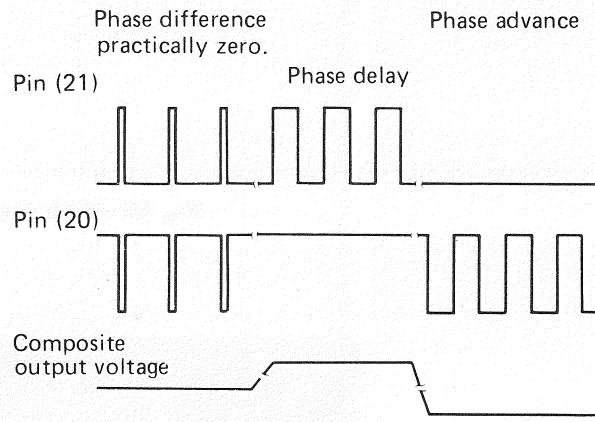
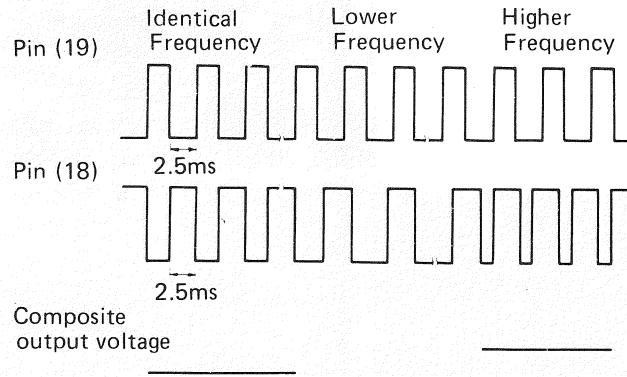

Fig. 16 Output of phase comparator
Fig. 17 Output of frequency comparator
When the quadrupled frequency of the speed detecting signal is higher than the rated speed, the composite output voltage goes up. (See Fig. 17) On the other hand, if a phase lag arises (i.e. a rotational lag), the composite output voltage of the phase comparator goes up.
Conversely, if a rotational advance arises, the composite output voltage goes down. (See Fig. 16) The composite output voltages mentioned above refer to those that have passed through the low-pass filters.
g) If the frequency comparator output (voltage across terminals 18 and 19 of IC PD1001) is lower than that of the reference signal (i.e. when there is a lag in the rotation of the rotor), the synthesizer output is set at HIGH (see Fig. 17). The waveform of the composite voltages in Figs. 16 and 17 indicate the CR lowpass filter output.